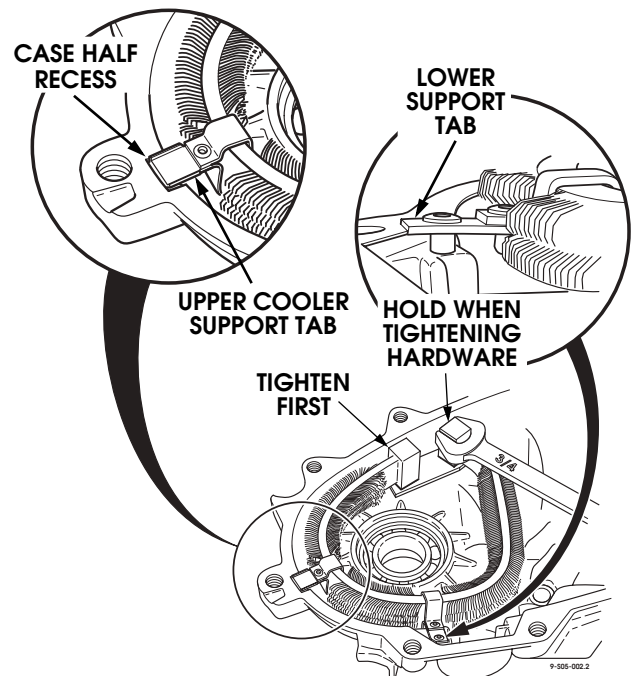

Figure 5-151: Transfer Case Cooler Support Tabs
23. Align the upper support tab in the recess of the case and ensure that the lower tab, the one with the extra rivet installed, rests on the recessed casting. The lower tab is designed to have the rivet compressed between the recessed casting area of the front and rear transfer case halves when the halves are bolted together. Make sure that the tabs do not intrude into the machined mating surface area of the transfer case halves. Do not bend the cooler when moving into position, damage to the manifold area could occur from induced stress. While gently holding the cooler with a 3/4" wrench on the manifold, tighten hardware to 15 lb-ft. (Figure 5-151)